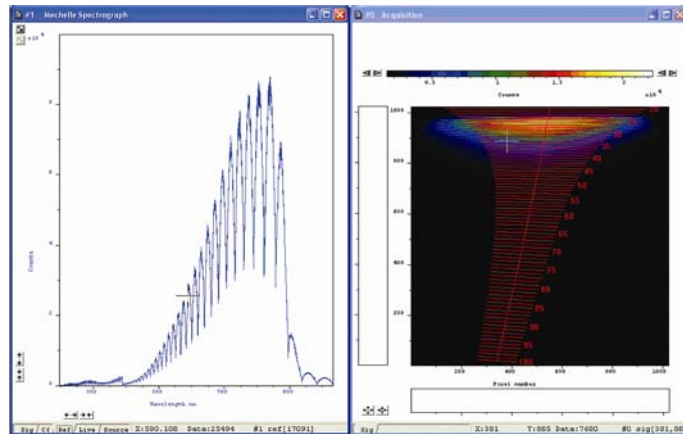

Figure 21: **Ref** tab = signal from a deuterium (200 - 390nm) lamp and QTH lamp (390 - 800nm)
2. **Ref:** the data recorded when the standard lamp is switched on minus the background scans. See figure 21 on page 42).